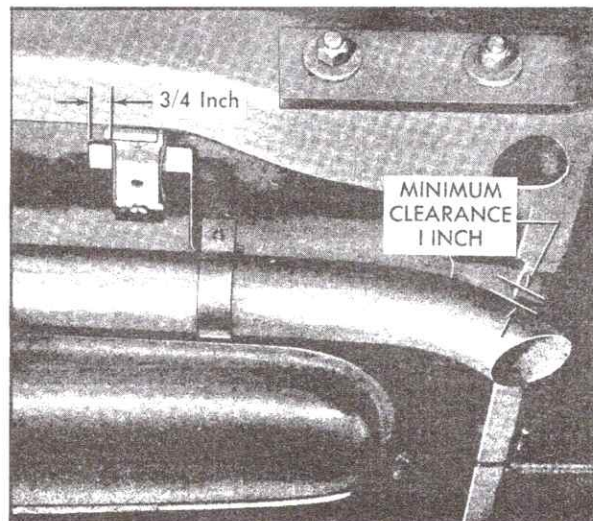

Fig. 8-2 Muffler Outlet Pipe Hanger at Frame
2. Remove rearmost clamp and hanger blade securing outlet pipe to support bracket at frame side rail, Fig. 8-2.
NOTE: Align pipe so that there is a minimum of 1 inch between outlet and rear frame cross member, when measured perpendicular to the angle of pipe at outlet, Fig. 8-2.